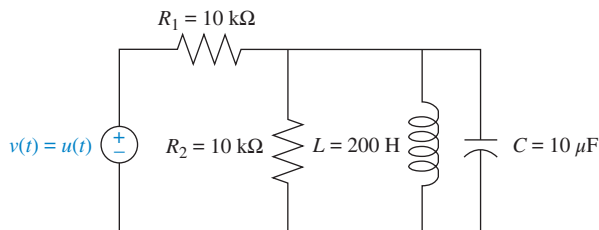

FIGURE I-4.1
3. Write the general form of the capacitor voltage for the electrical network shown in Figure I-4.1. [Section: 4.4]